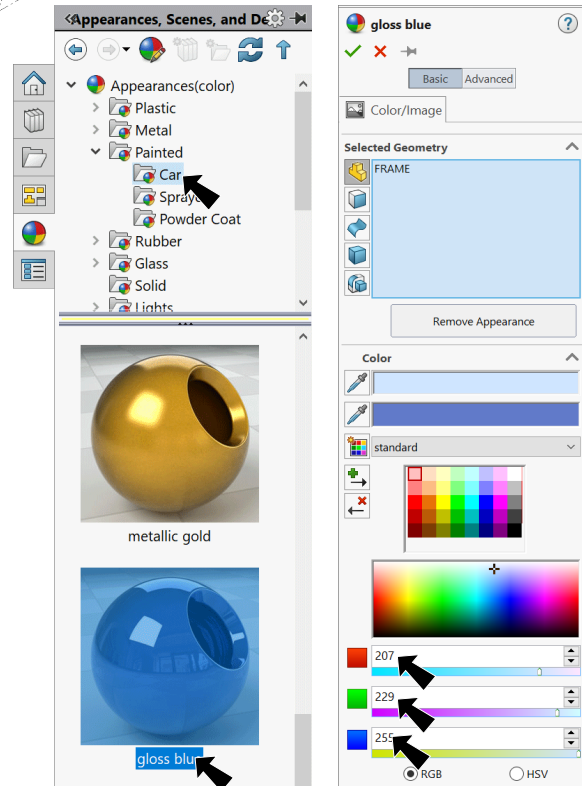

Fig. 58
Step 2. In the Appearances Task pane, expand **Painted**, click **Car** and in the lower pane select **gloss blue**, Fig. 58.